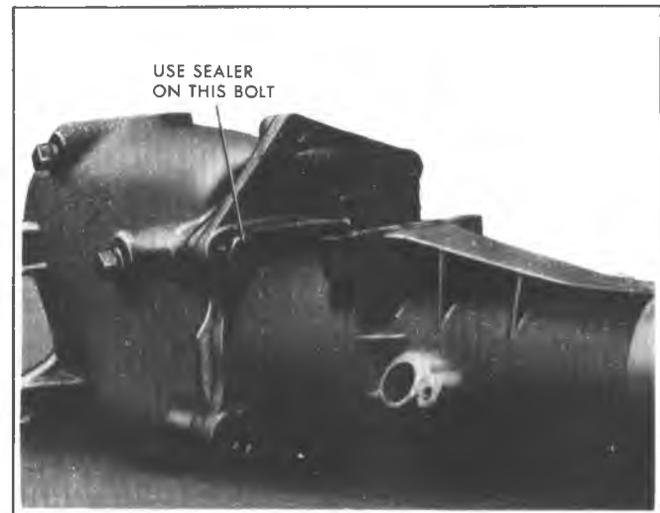

Fig. 7B-24K—Extension Bolt
**NOTICE:** It is essential that sealer be used on the extension bolt as indicated in Fig. 7B-24K.